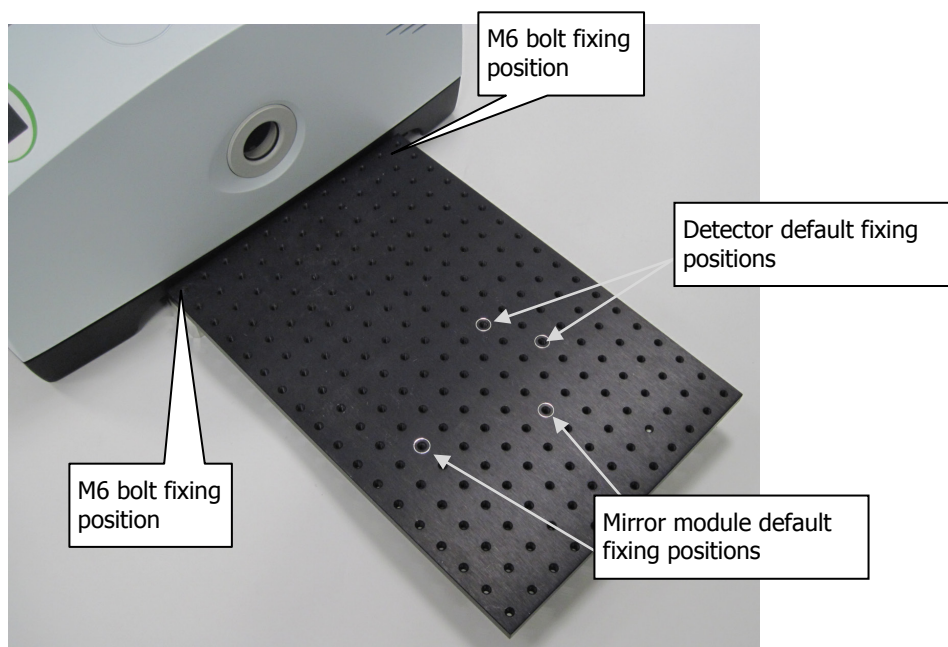

Figure 6 Bench fitted to fixing block
4. Screw the two M6 socket head bolts into the threaded fixing positions at the front left and back left of the optical bench, as shown in Figure 6.
Both modules are fixed to the optical bench using M6 bolts. The default fixing positions for the pillars are marked on the optical bench; see Figure 6.
Bolt the two pillars and cross-bar that support the parabolic mirror to the optical bench, oriented to that the mirror faces the detector. See Figure 6 for details of fixing position.